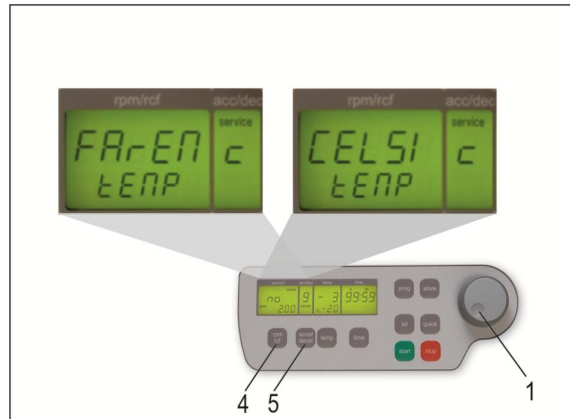

Figure 5
Proceed as described under point 1.8.2 to enter this program mode and then press the key „accel/decel“ (5). In the display „accel/decel“ (A-2) appears the word „service“. Now select the letter „C“ with the adjusting knob (1). As a result in the display „rpm/rcf“ (A-1) appear the words „CELSI/temp“. If you press the key „rpm/rcf“ (4) now, the word „CELSI“ flashes and you can change the display into Fahrenheit „FAREN“ with the adjusting knob (1) (see figure 5).